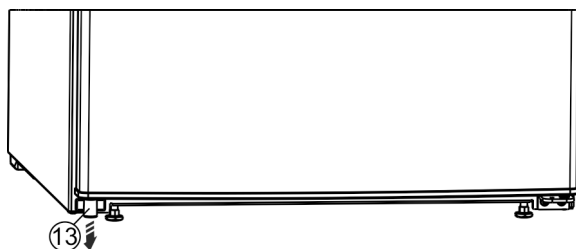

Fig. 11 \*
- Remove the spacer Fig. 11 (13) from under the left-hand side of the door.\*